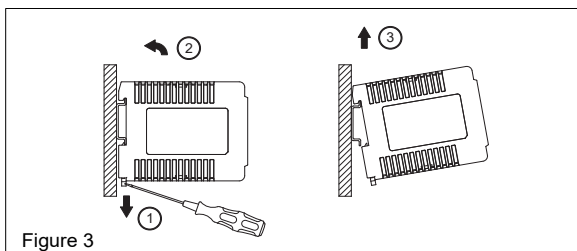

Figure 3
4. Dismounting (Fig. 3)
To uninstall, use a flat screwdriver to pull or slide down the latch as shown in Fig. 3. Then slide the PSU in the opposite direction, release the latch and pull out the PSU from the rail.